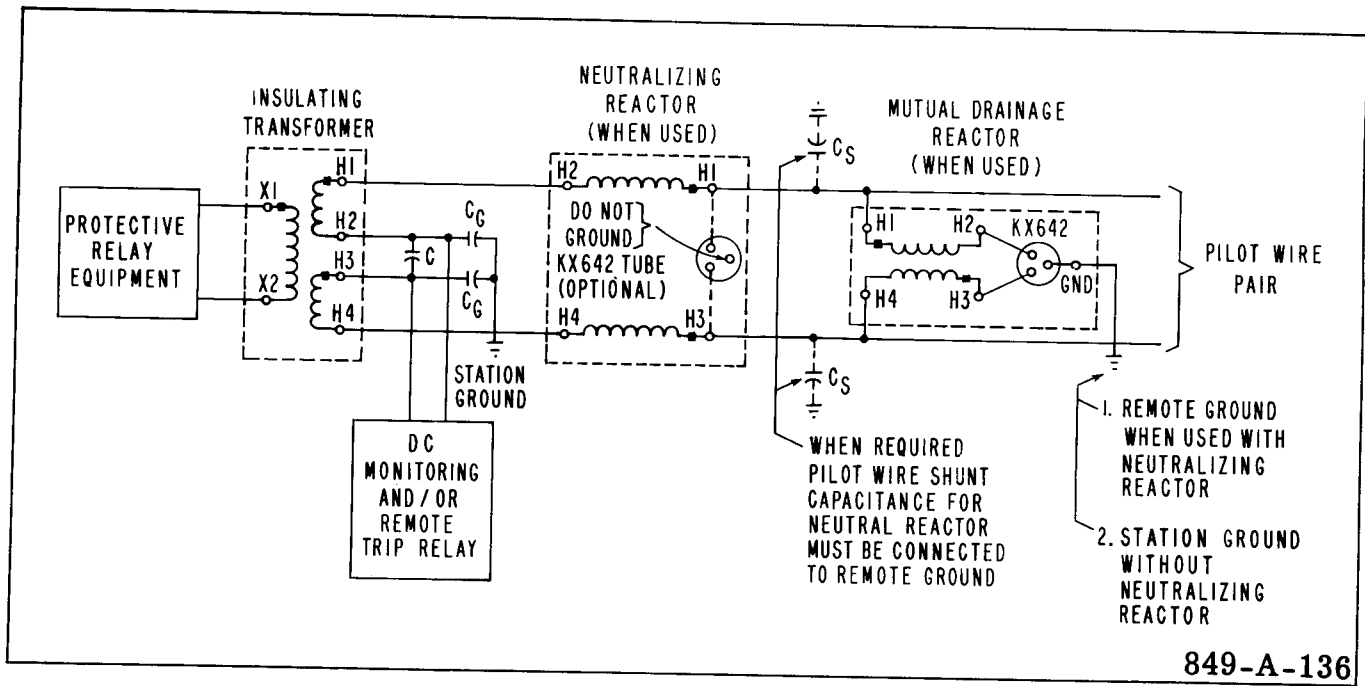

Fig. 1. External Schematic for Pilot Wire and Protective Equipment for HCB and HCB-1 Relaying.
The insulation and protection equipment shown in Fig. 1. is used with the HCB or HCB-1 pilot wire relay. A complete installation for one terminal of a line consists of an insulating transformer, neutralizing reactor, capacitors, mutual drainage reactors and neutralizing reactor KX642 tube.
The AC bypass capacitor (C) is required only when DC monitoring and/or remote trip relays are used. Otherwise connect H2 to H3 on the insulating transformer (refer to Fig. 1.). Use a 10 ufd capacitor